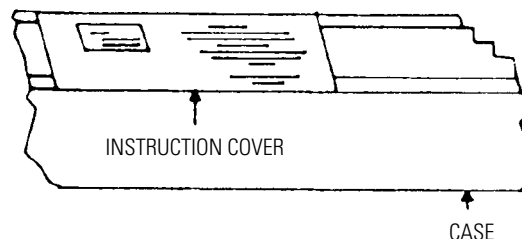

FIGURE 2
3. Remove instruction cover plate (Fig. 2). Do not remove wrapping paper or tape strips until screen is installed.